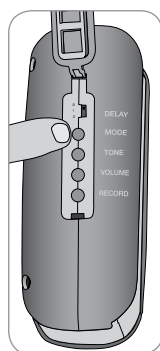

Fig. 5
3. Press MODE button on left side of alarm to scroll through the mode selections (fig. 5).